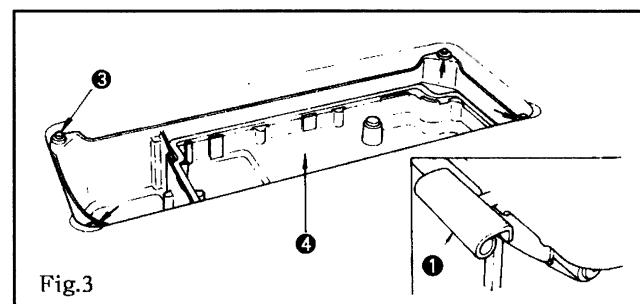
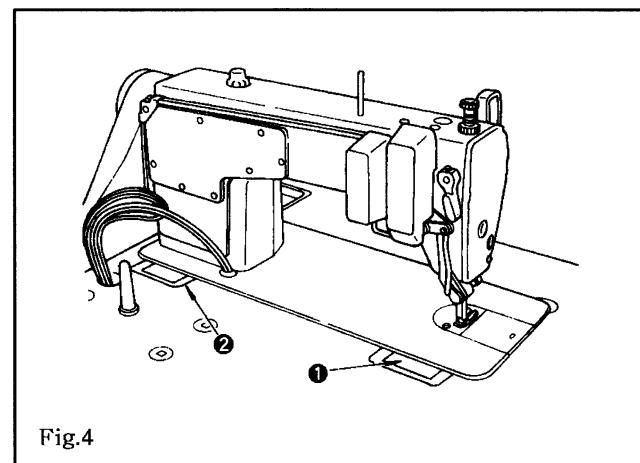

Fig.3
Fig.4
- 3) Fit hinge ① into the opening in the machine bed, and fit rubber cushions ③ and machine hinge rubbers ② before placing the machine head on machine table. (Fig.3, Fig.4)